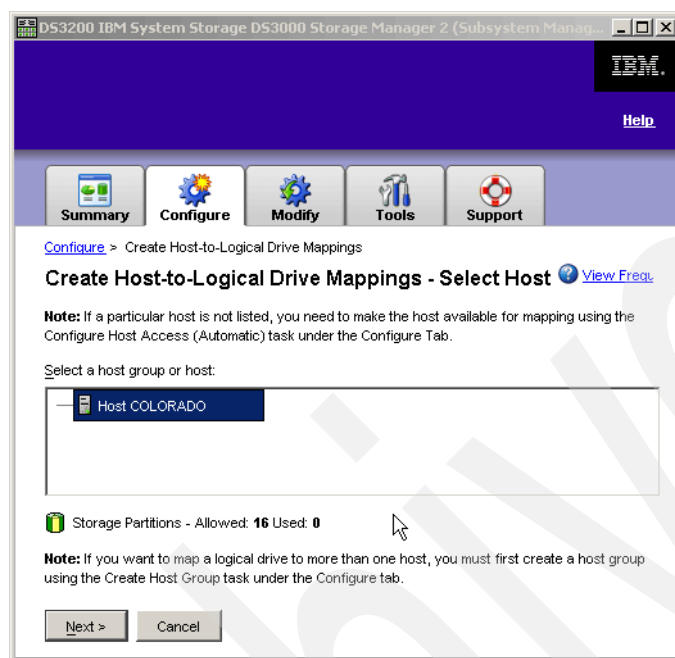

Figure 16-13 Select a host server
1. Select the host server. In our sample configuration, there is only one host, COLORADO (see Figure 16-13). Highlight the host and click **Next**.